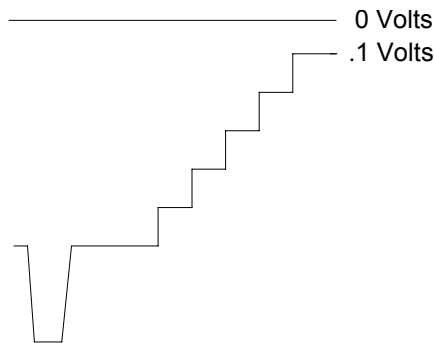

Figure 5-1. Waveform at TP2.
2. Set the controls R20, the white clip, R24, the sync clip, and R45, the sync stretch cut-in, to their fully counter-clockwise (CCW) position. Set R48, the sync magnitude, fully clockwise (CW).
7. Monitor TP2 with an oscilloscope. Adjust the pot R41, manual offset, for a blanking level of -0.8 VDC. The waveform in Figure 5-1 should be observed at this point. Move jumper W2 on J4 to the clamp enable position. Adjust pot R152, depth of modulation, for a blanking level of -0.8 VDC.
Note: The waveform in Figure 5-1 represents the theoretical level for proper modulation depth. Step 8 below describes how to set the modulation depth through the use of a television demodulator or a zero-spanned spectrum analyzer tuned to the visual IF frequency.